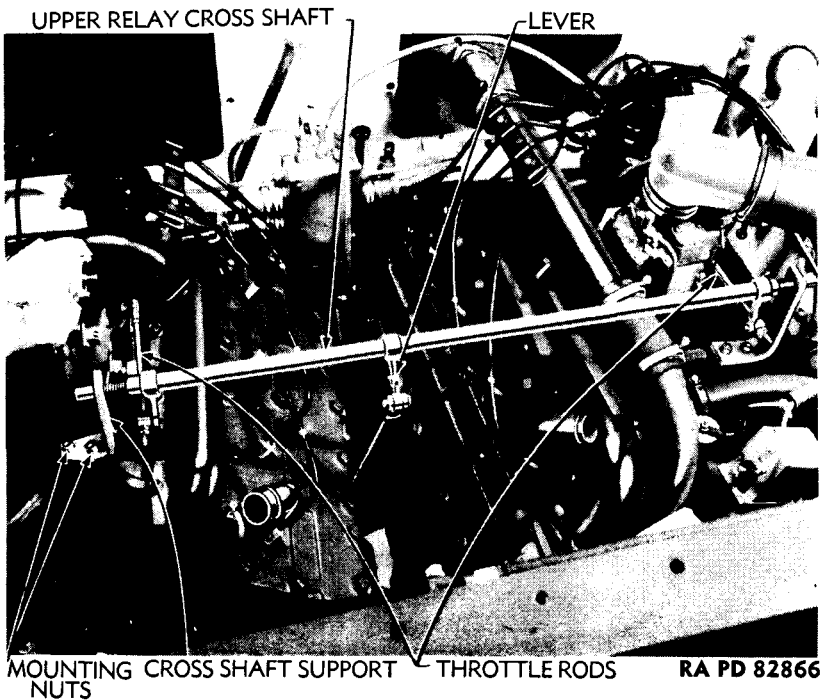

Figure 30 — Upper Relay Cross Shaft
(15) REMOVE CARBURETOR AIR INTAKE PIPE. Remove three screws that hold carburetor air intake pipe to engine compartment side-wall. Disconnect intake pipe at carburetor by loosening lower clamp. Disconnect choke stove intake line at both ends. Remove intake line.
(16) DISCONNECT TRANSMISSION CONTROL LINKAGE. Working from underneath vehicle, with cover plate under transmission removed, insert gage (41-G-426-20) over two intermediate relay cross shafts between manual lever and throttle lever. Insert gage pin (41-G-249-50) through curved manual lever and into hole in gage. Insert another gage pin (41-G-249-50) through straight throttle lever and into hole in gage plate. Disconnect transmission manual control rod from lever on transmission by removing cotter and clevis pins.
(17) REMOVE UPPER REAR RELAY CROSS SHAFT. Remove clevis pin from lever on center of relay cross shaft (fig. 30). Disconnect throttle rods at cross shaft levers. Remove four nuts from two relay cross shaft supports and remove shaft and supports as a unit. **NOTE:** *Do not lose springs from ends of cross shaft.*
(18) REMOVE PROPELLER SHAFT COVERS. Working in fighting compartment, loosen two screws on top, and remove two screws on side